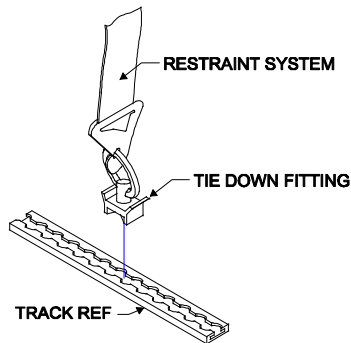

Figure 1.0D
3. The restraint seat belts and shoulder harness are installed and removed by attaching them to tie down fittings installed into the cabin seat track. See Figure 1.0D